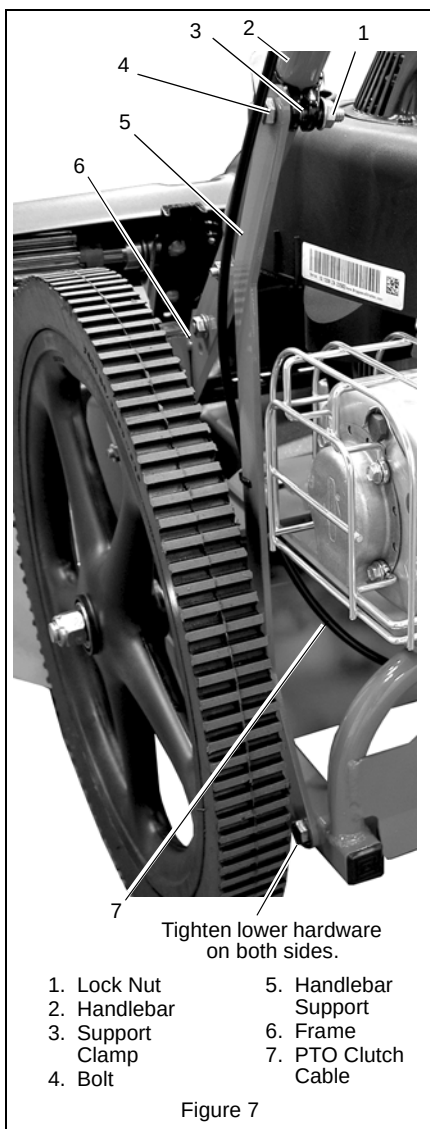

Figure 7
9. Align each support clamp on handlebar with vertical support and connect with hex cap screw and flanged lock nut. Tighten to 14 lbf-ft (19 N•m). See Figure 7.
12. Tighten hardware securing lower end of each handlebar support to frame to 23 lbf-ft (31 N•m). See Figure 7.